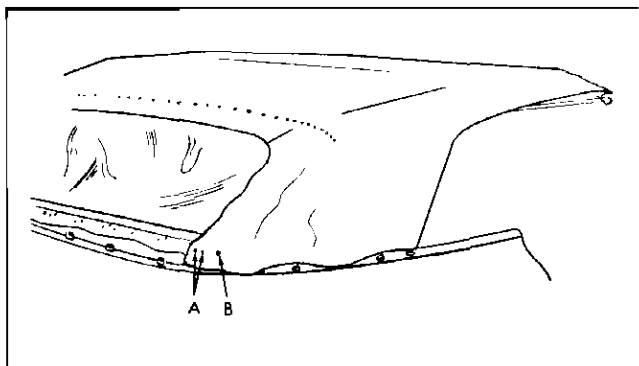

Fig. 7-47 Tack Top Material
35. Using previously marked lines (ends of trim stick) as locating reference, tack top material to rear and rear quarter trim sticks. "A" in Fig. 7-47 shows top material installed to rear trim stick at base of each weather flap.